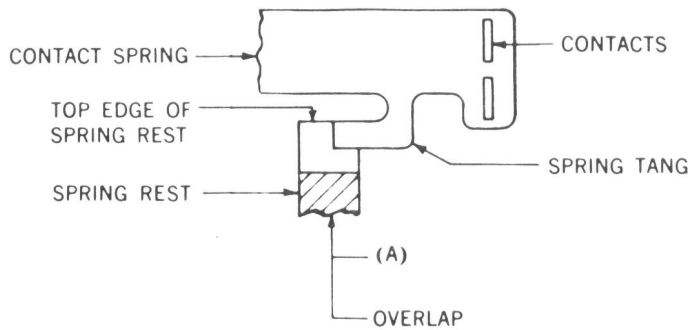

Fig. 4—Position of Spring Tang
**2.09 Spring Tang Position - Fig. 4(A)**
(b) The spring tang shall overlap the spring rest as shown in Fig. 4(A) and the spring tang may project one-third of its width above the top edge of the spring rest. Gauge by eye.